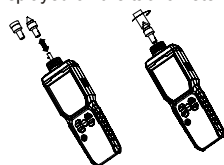

Figure 7
3. Contact---RPM/Hz (Figure 7)